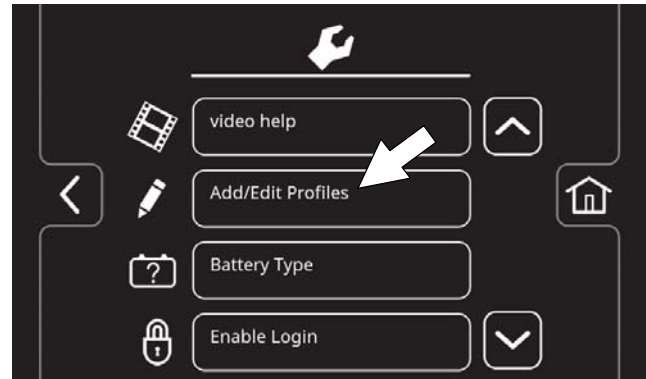

FIG. 169
- Press the Add/Edit Profiles button to enter a new user profile (Figure 169).